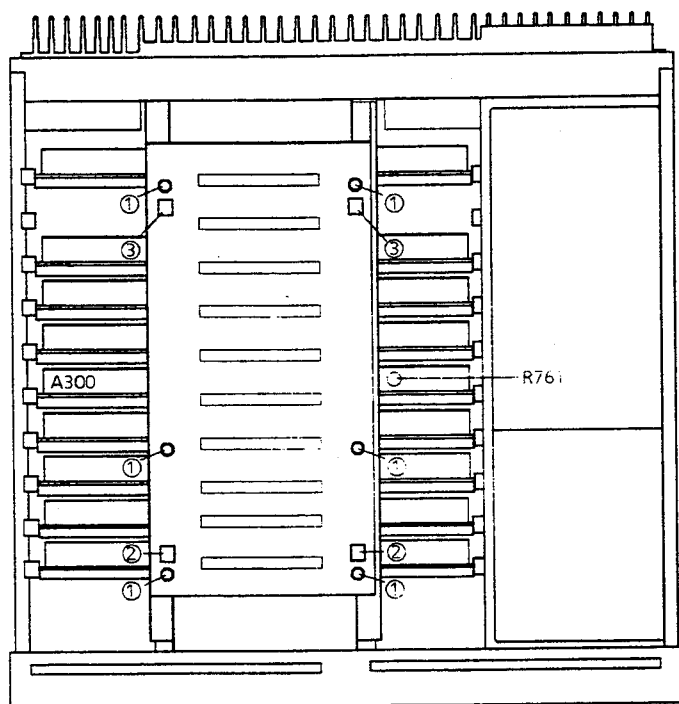

Fig. 4-4 Opened instrument seen from below
- ▶ Call the *IF Gain Adj* function in the self-test menu and switch it on by pressing one of the two ENTER keys. The level indication is to be set to $30 \text{ dB}\mu\text{V} \pm 0.2 \text{ dB}$ by turning the potentiometer R761 at the bottom of the I/Q demodulator module (cf. fig. 4-4).